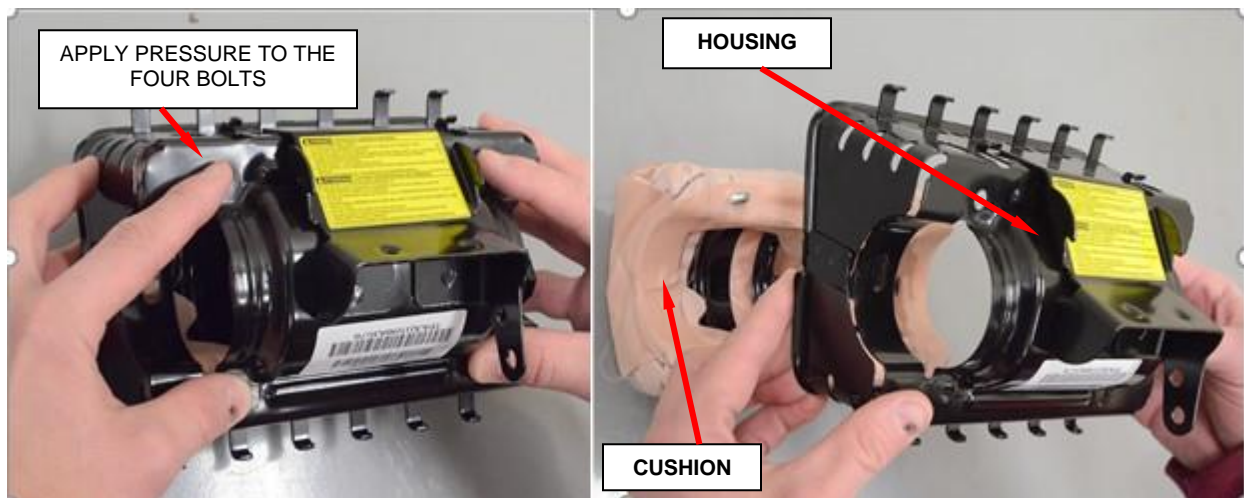

Figure 38 – Remove Airbag Cushion from Housing
g. Remove airbag cushion from housing by applying pressure to the bolts, set cushion aside (Figure 38).
- n. Slide the **NEW** inflator into the passenger airbag module housing. The keyed end is inserted first; therefore, the white **or** blue stripe on the **NEW** inflator will be located at the open end (Figure 38).
NOTE: The inflator is keyed to fit into the housing (Figure 38).